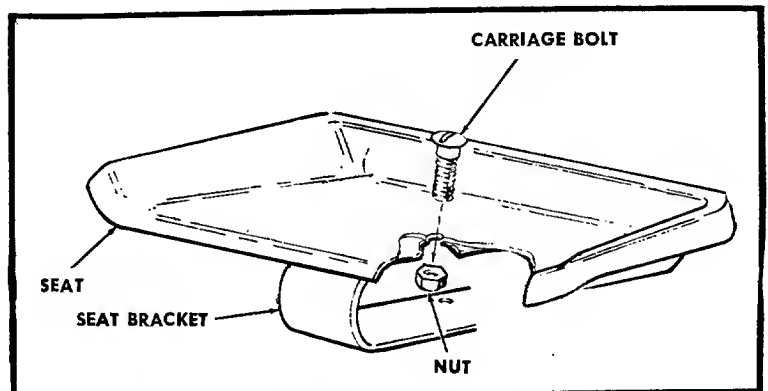

FIGURE 2. SEAT ASSEMBLY
- Step 1. Assemble the seat to the seat bracket with the large carriage bolt and nut. See figure 2.